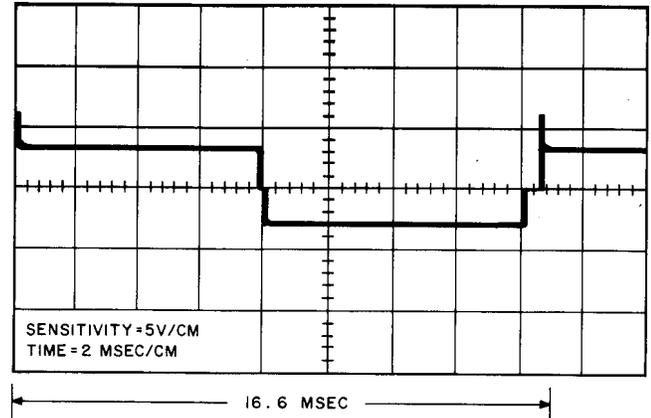

Fig. 14—Gate Waveform
- (16) Reconnect the SCR gate leads.
- (17) To isolate the particular faulty SCR and/or rectifier, refer to (6) and/or(8).
- (18) Operate INPUT switch (S501) to CHARGE, S101 to ON, and S102 to OFF.
- (19) Using the KS-14510 meter, check for 30 \pm 1 VDC between TP104(+) and TP103(-) and 152 VDC nominal (battery terminal voltage) between TP102(+) and TP103(-).
- (20) If TP104-TP103 reads zero, check fuses F101, F102, and F103.
- (21) If the fuses are good and TP102-TP103 reads 152 VDC, disconnect P201 from the master logic board.
- (22) If TP104-TP103 now reads 30 ± 1 VDC, check for possible shorts in the master logic board (Q202, Q203) and/or slave logic board (Q402, Q403).
- (23) If the voltage between TP104-TP103 is still low or zero, check the voltage across CR101 and CR102 (15 volts across each).
- (24) Check C102 for a short.
- (25) Reconnect P201 to the master logic board if the power supply board is working satisfactorily.
- (26) Using the oscilloscope, check the waveform between TP501-TP507 and TP508-TP507. If the waveform is not similar to Fig. 14, the trouble is most likely in the master logic board, or a shorted gate to cathode in CR501 or CR502.
- (27) Check the waveform between TP509-TP510 and TP505-TP510. If the waveform is not similar to Fig. 14, the trouble is most likely in the master logic and/or the slave logic boards or a shorted gate to cathode in CR505 or CR506.
- (28) If the trouble has not been located, continue checking as given in 5.07 and/or 5.08 as appropriate.
5.07 If the waveform at TP501-TP507, TP508-TP507 was not similar to that shown in Fig. 14, perform the following checks.
(1) Operate INPUT switch (S501) to CHARGE, switch S101 to ON, and S102 to OFF.
(2) Compare all gate waveforms (TP501-TP507, TP508-TP507, TP505-TP510, and TP509-TP510) with Fig. 14.